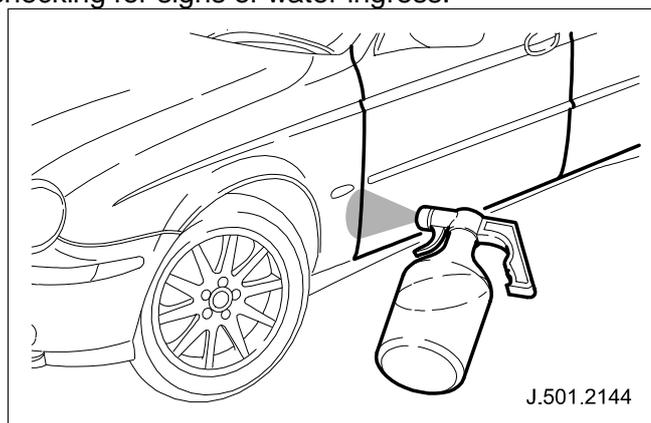

Fig. 30
- 2 From the exterior of the vehicle, direct the spray gun at the lowest point of the suspected leaking area. (See Fig. 30)